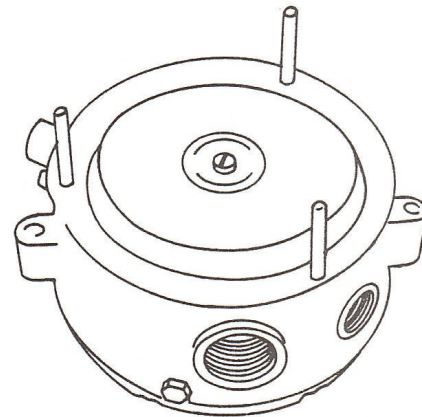

FIGURE 9. Aligning Pins
2. Insert the aligning pins in the front cover screw holes, using every other hole. Slide the gasket over the pins with the gasket ears over the primary cover screws then slide on support plate. Mount the secondary diaphragm assembly on the pins with the button toward the convertor lever. (FIGURE 9)